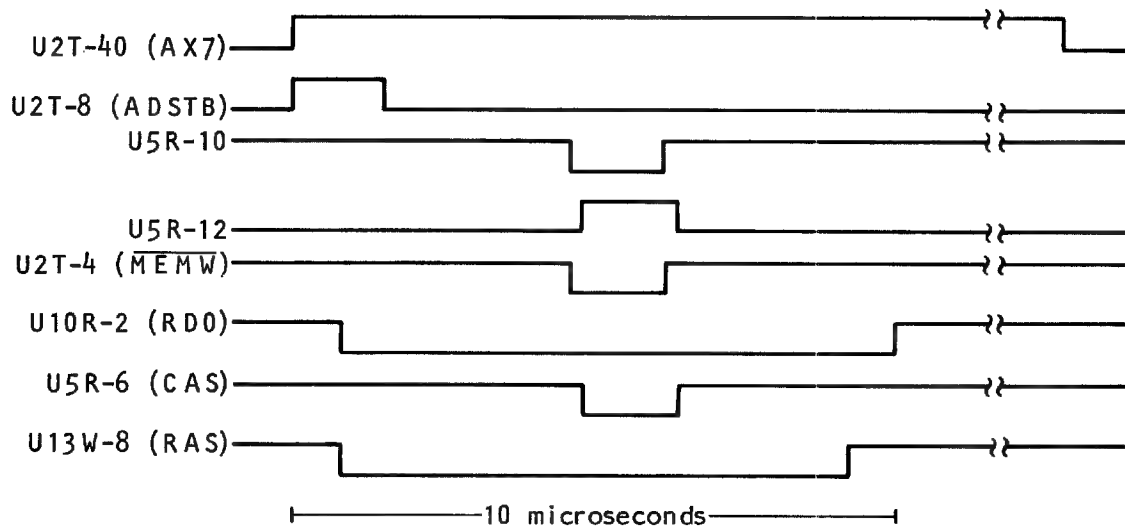

Figure 3-4. Service Aid 42 Sequence Timing
3-29. **Service Aid 42.** This service aid activates the cache memory DMA controller (channel 2), address and data lines for troubleshooting. See Figure 3-4 for the relative timing/sequence of a cache memory write operation. The data lines have a high state (1) value rotated through the byte from LSB to MSB, therefore, only one bit is high at a time. The address lines have a low state (0) value rotated through the 16 bit address word, thus, only one address line is low at a time. Pressing TEST exits the service aid.